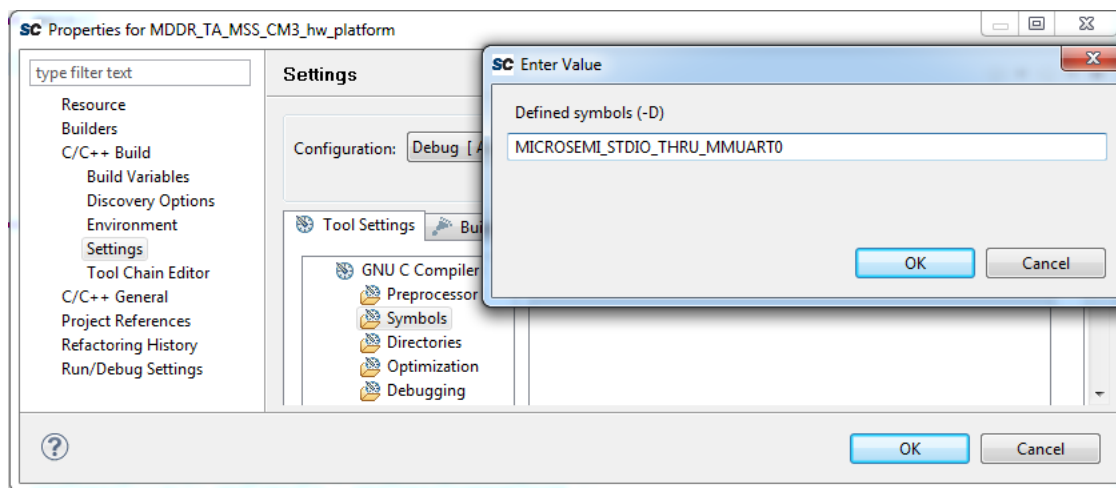

Figure 35 • MICROSEMI_STDIO_THRU_MMUART0 Symbol Settings
- Initializing and configuring the MMUART_0 with 115200 baud rate, 8 data bits, 1 stop bit, no parity, and no flow control. This is done by adding MICROSEMI_STDIO_THRU_MMUART0 symbol in the project settings, as shown in Figure 35.